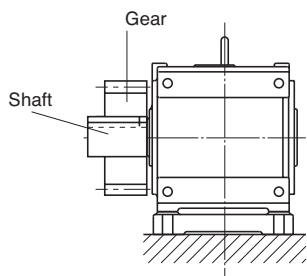

Fig. 6
- Make the load point of sprocket and gear closer than the shaft center to the gearmotor or reducer side (Refer to Fig. 6).